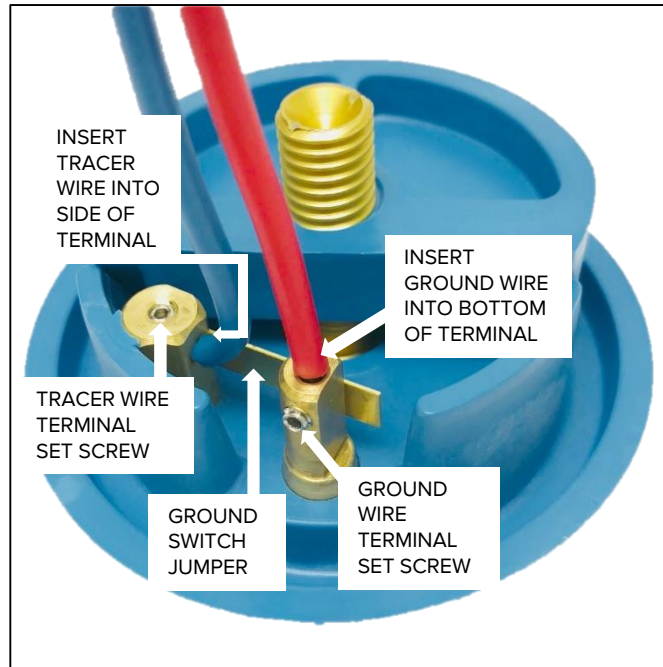

Fig. 2
7. Use 1/16 Allen wrench to slightly loosen tracer wire terminal set screw. Insert stripped and gelled tracer wire into hole on side of tracer wire terminal; Tighten set screw until firm contact is made with wire (Fig. 2).
8. Use 1/16 Allen wrench to slightly loosen ground wire terminal set screw; Insert stripped and gelled ground wire into hole on bottom of ground wire terminal; Tighten set screw until firm contact is made with wire (Fig. 2).